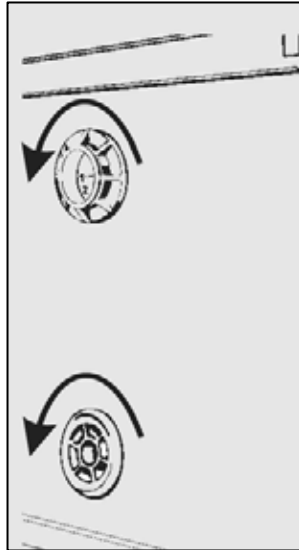

Figure 5-25: Water Inlet - Removal
2. Unscrew the connections securing the Water Intake to the inside of the cabinet; as shown in Figure 5-25.